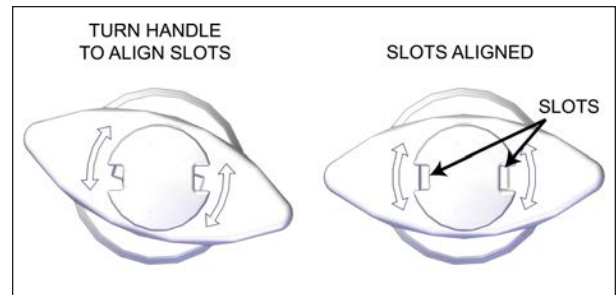

FIGURE 74: ALIGN THE SLOTS
2. Turn the red handle left or right to align the slots located in the center part of the handle, see Figure 74.